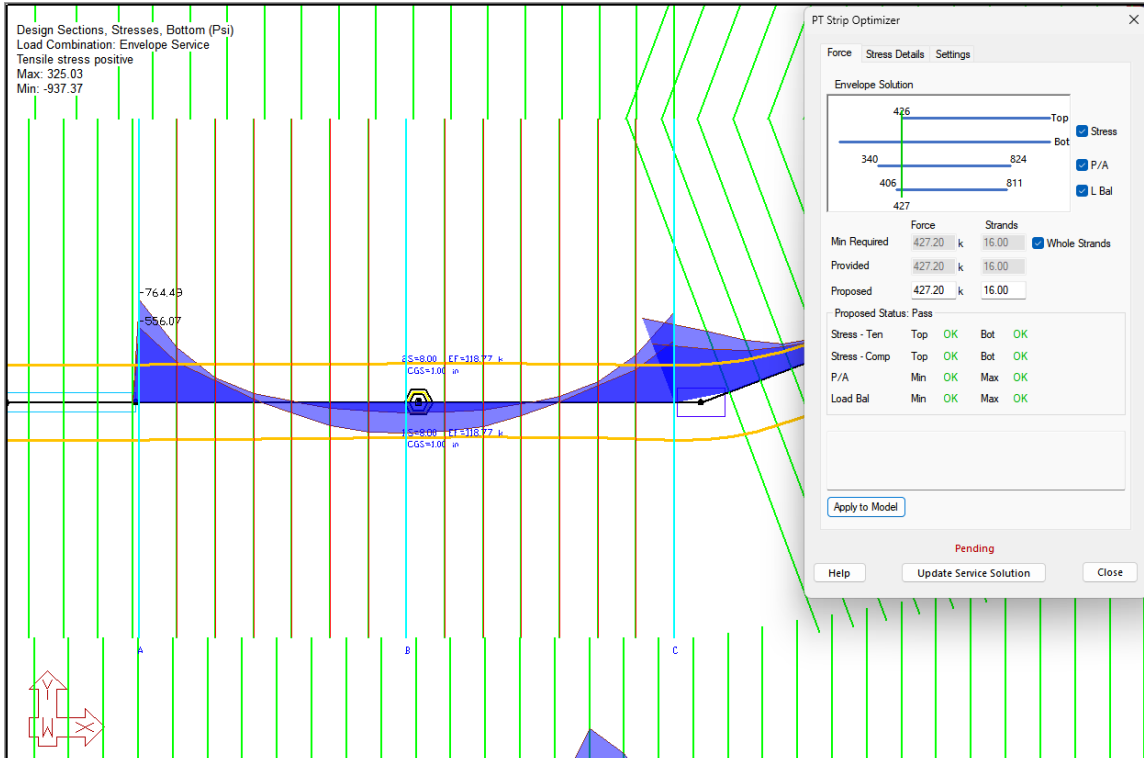

FIGURE 9-103
- After making the change to the tendons, the program will highlight these tendons orange, as shown in **FIGURE 9-103**, to indicate the current solution no longer applies to these tendons and the results are not up to date. Another indication of this is the red *Pending* shown at the bottom of the *PT Strip Optimizer*.